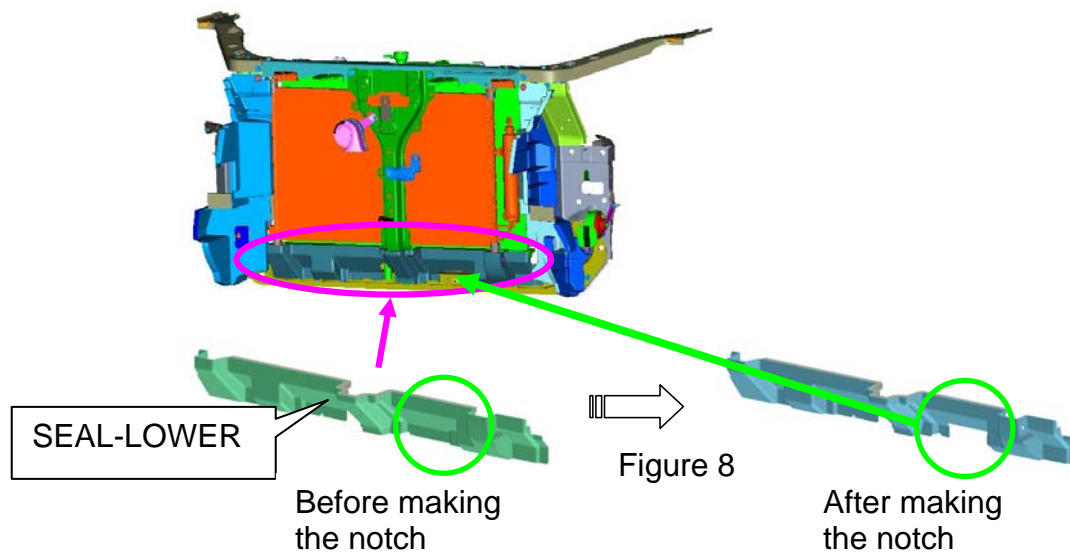
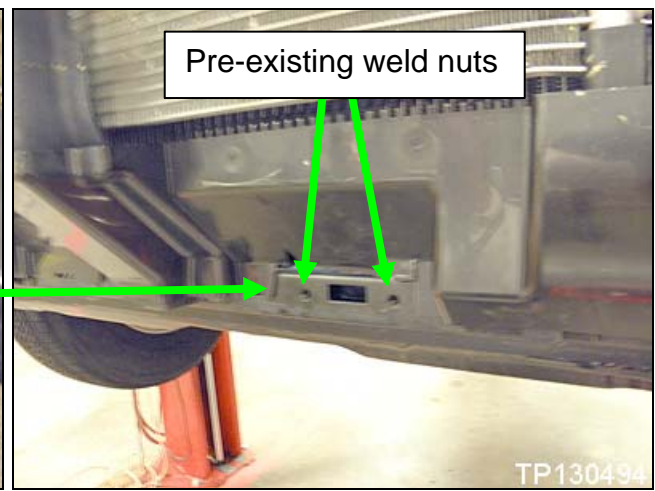
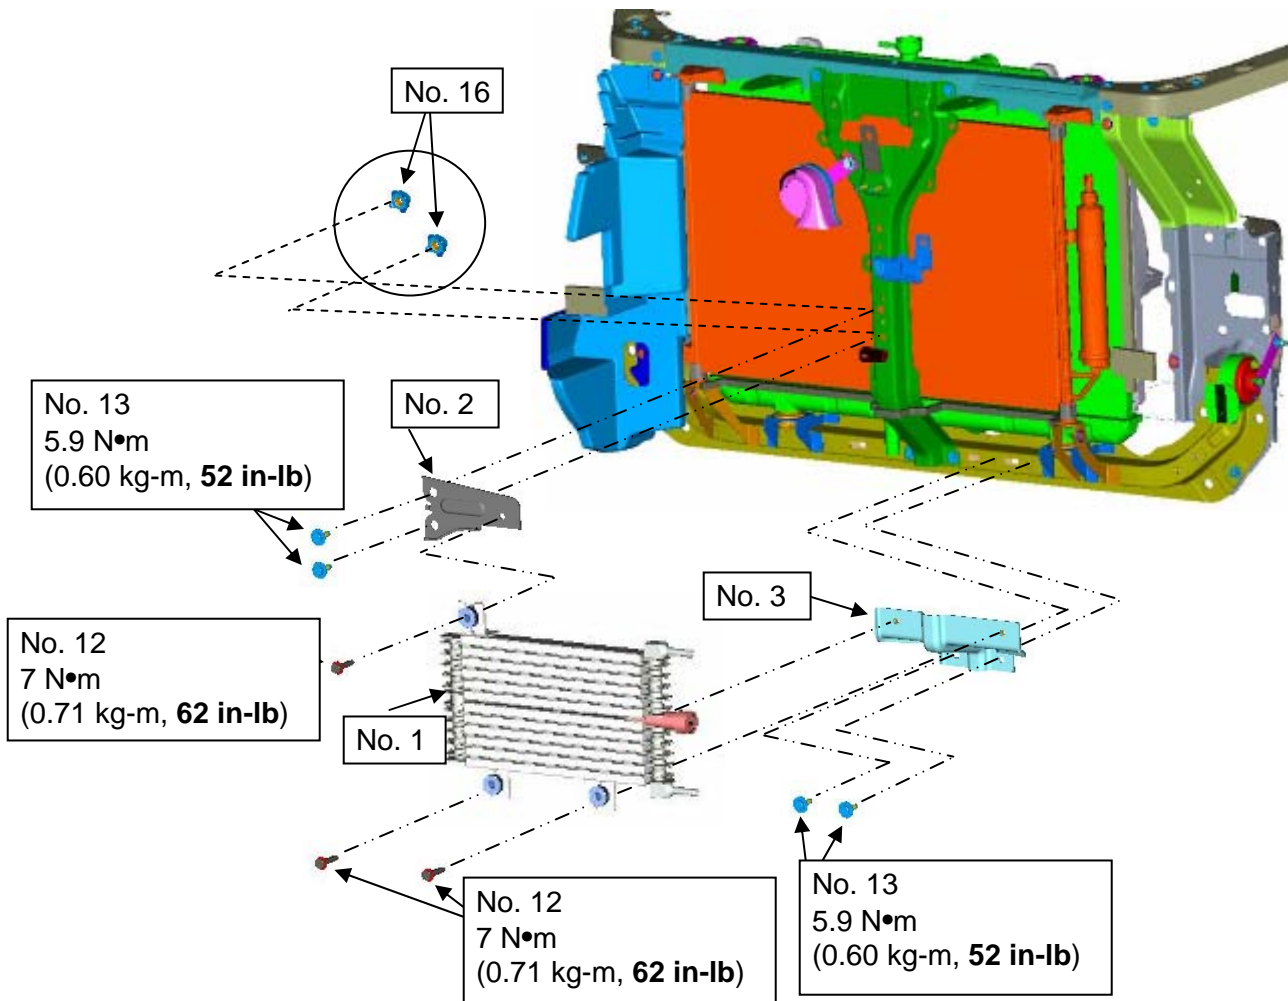
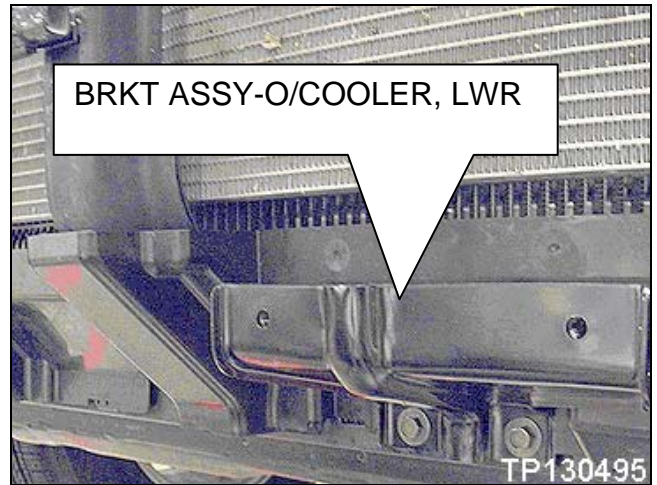

Figure 9
Figure 10
Figure 11
Figure 12
- a. See Figure 10 for reference to locate the pre-existing weld nuts in the lower radiator support that the BRKT ASSY-O/COOLER, LWR (No. 3), shown in Figure 11 and Figure 12, will be attached to.
- b. Place the BRKT ASSY-O/COOLER, LWR from the kit over the SEAL-LOWER and mark "bracket width" where the material will be removed as shown in Figure 8 and Figure 10.
- c. Remove only enough material (Figure 9 and Figure 10) to allow the BRKT ASSY-O/COOLER, LWR to be installed to the lower radiator support (approximately 127mm x 50.8mm [5" x 2"]).
Figure 9 and Figure 10 illustrate the area to remove the material to allow clearance to install the BRKT ASSY-O/COOLER, LWR.
Figure 11 illustrates the COOLER ASSY-AUTO TRANS and attachment points to vehicle and is for reference when performing steps on page 7.
**NOTE:** Refer to Figure 11 on page 6 for steps 2-4 below.
4. Install COOLER ASSY-AUTO TRANS, OIL (No. 1) and torque all bolts to specifications provided in Figure 11.